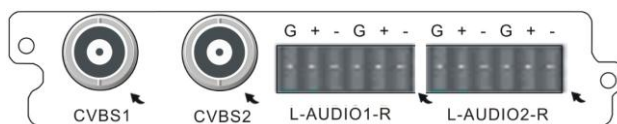

Fig. 5-69 Analog SD ENC Card
Analog SD ENC Card provides the video input interface of 75ΩBNC, and provides audio input interface as the phoenix printed circuit board terminals of MINI COMBICON (MC) socket and plug, plug direction parallel with conductors axial. Analog SD ENC Card is shown in Fig. 5-69 Analog SD ENC Card: